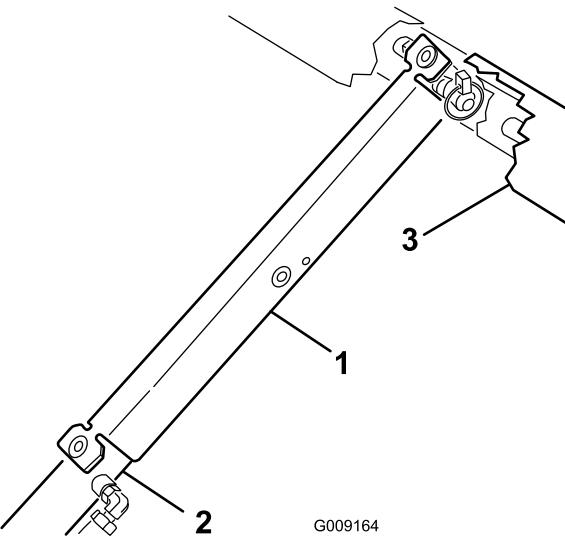

Figure 26
3. Push the bed support onto the cylinder rod, making sure that the support end tabs rest on the end of cylinder barrel, and on the cylinder rod end (Figure 26).